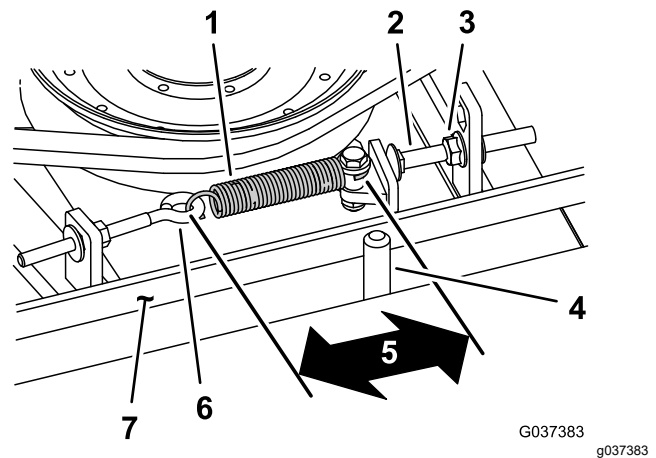

Figure 115
When properly tensioned, the inside measurement of the extension spring (hook to hook) should be approximately 8.3 to 9.5 cm (3-1/4 to 3-3/4 inches). Once the correct spring tension is attained, adjust the stop bolt (carriage bolt) until there is approximately 2 to 5 mm (0.065 to 0.185 inch) clearance between the head of the bolt and the idler arm (Figure 115).
Note: Ensure that the belt is positioned on the spring side of the belt guide (Figure 115).
2. Loosen the eye bolt (Figure 115).
3. Loosen the flange nut securing the stop bolt to the mounting tab and move the idler pulley away from the belt (Figure 115).
9. Connect the extension spring (Figure 115) to the eye bolt and tension the belt as follows: